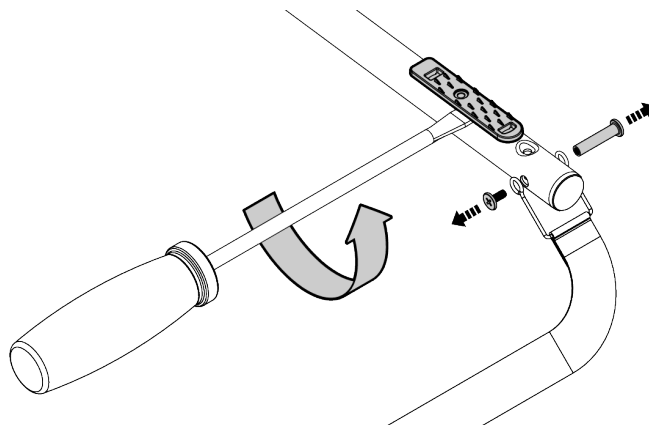

FIGURE 2
2. Remove safety strap using tools **G** and **H**. Remove grippers from both legs using a standard screwdriver as shown in *FIGURE 2*.